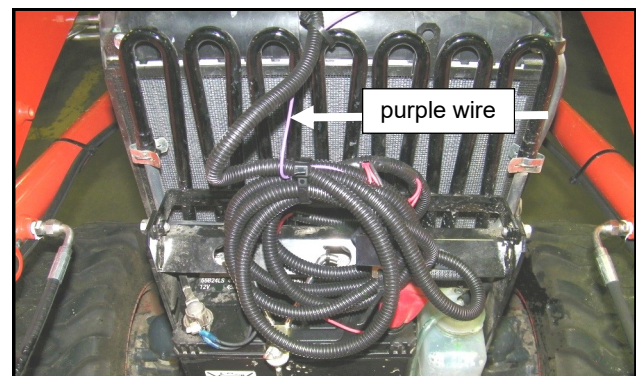

Fig. 10.4 (wire harness - engine bay of tractor)
**10.4** Place the wire harness battery ring terminals near the battery terminals and secure the fuse and relay to factory wire tie mount with wire ties provided as shown. See fig. 10.4.
**10.9** Coil up any excess of the switched power wiring harness near the battery and wire tie in place. Tighten all P-clips and wire ties. See fig. 10.4.